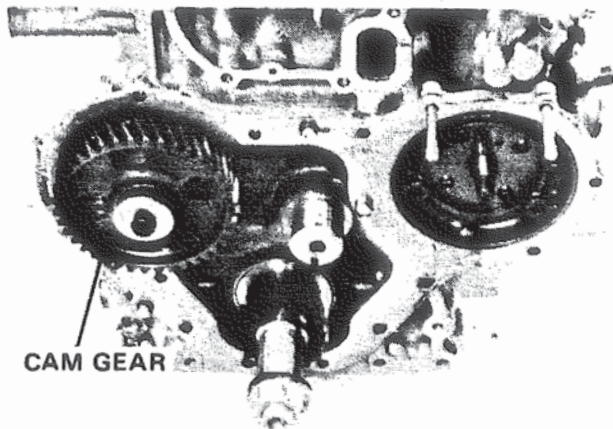

Figure 64. Installing Cam Gear.
B. Slide camshaft gear in place and secure with capscrew, torque capscrew to 2.1 kg/m (15 ft. lbs.). Figure 64.